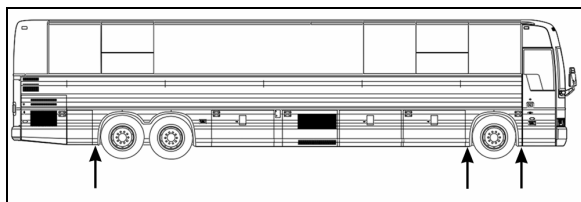

FIGURE 5: JACKING POINTS ON FRAME 11020
1. Raise vehicle by its jacking points on the body (fig. 5 or see Section 18, "Body" under heading "Vehicle Jacking Points"). Place jack stands under frame. Remove drive axle wheels (if required, refer to Section 13, "Wheels, Hubs And Tires".